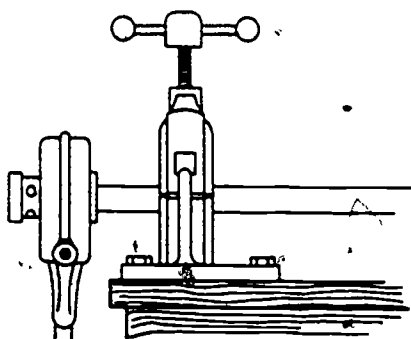

Figure 1. Slipping Stock Over Conduit
3. Slip the die over the conduit as shown in figure 1.